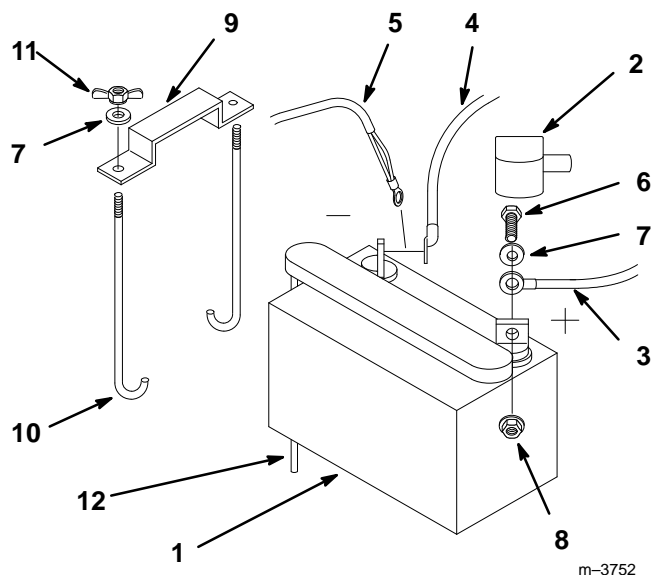

Figure 7
1. Position battery in tray with terminal posts toward the left hand side of mower (Fig. 7).
4. Secure cables with (2) 1/4 x 3/4" (19 mm) bolts 1/4" washers and 1/4" locknuts (Fig. 7).
5. Secure battery with J-bolts, hold down clamp and (2) 1/4" washers and (2) 1/4" wing nuts (Fig. 7).